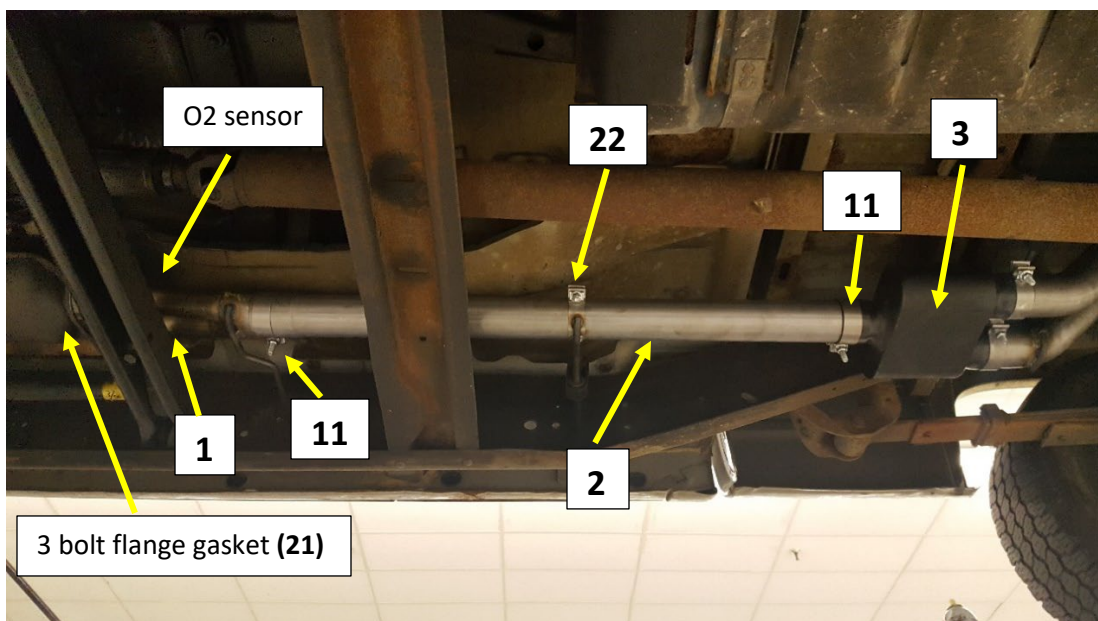

Figure.3
Note: Clean all the old gasket material from the flange. **Fig.3**
2. Install the Inlet pipe assembly **(1)** on to the 3 bolt Catalytic converter flange. Install the OEM M10 x 1.5 nuts and tighten. **Fig.3**
6. Install the extension pipe on to the outlet of the extension pipe **(1)** and tighten the band clamp. **Fig.3** * **Double check it is the correct length for your application.**